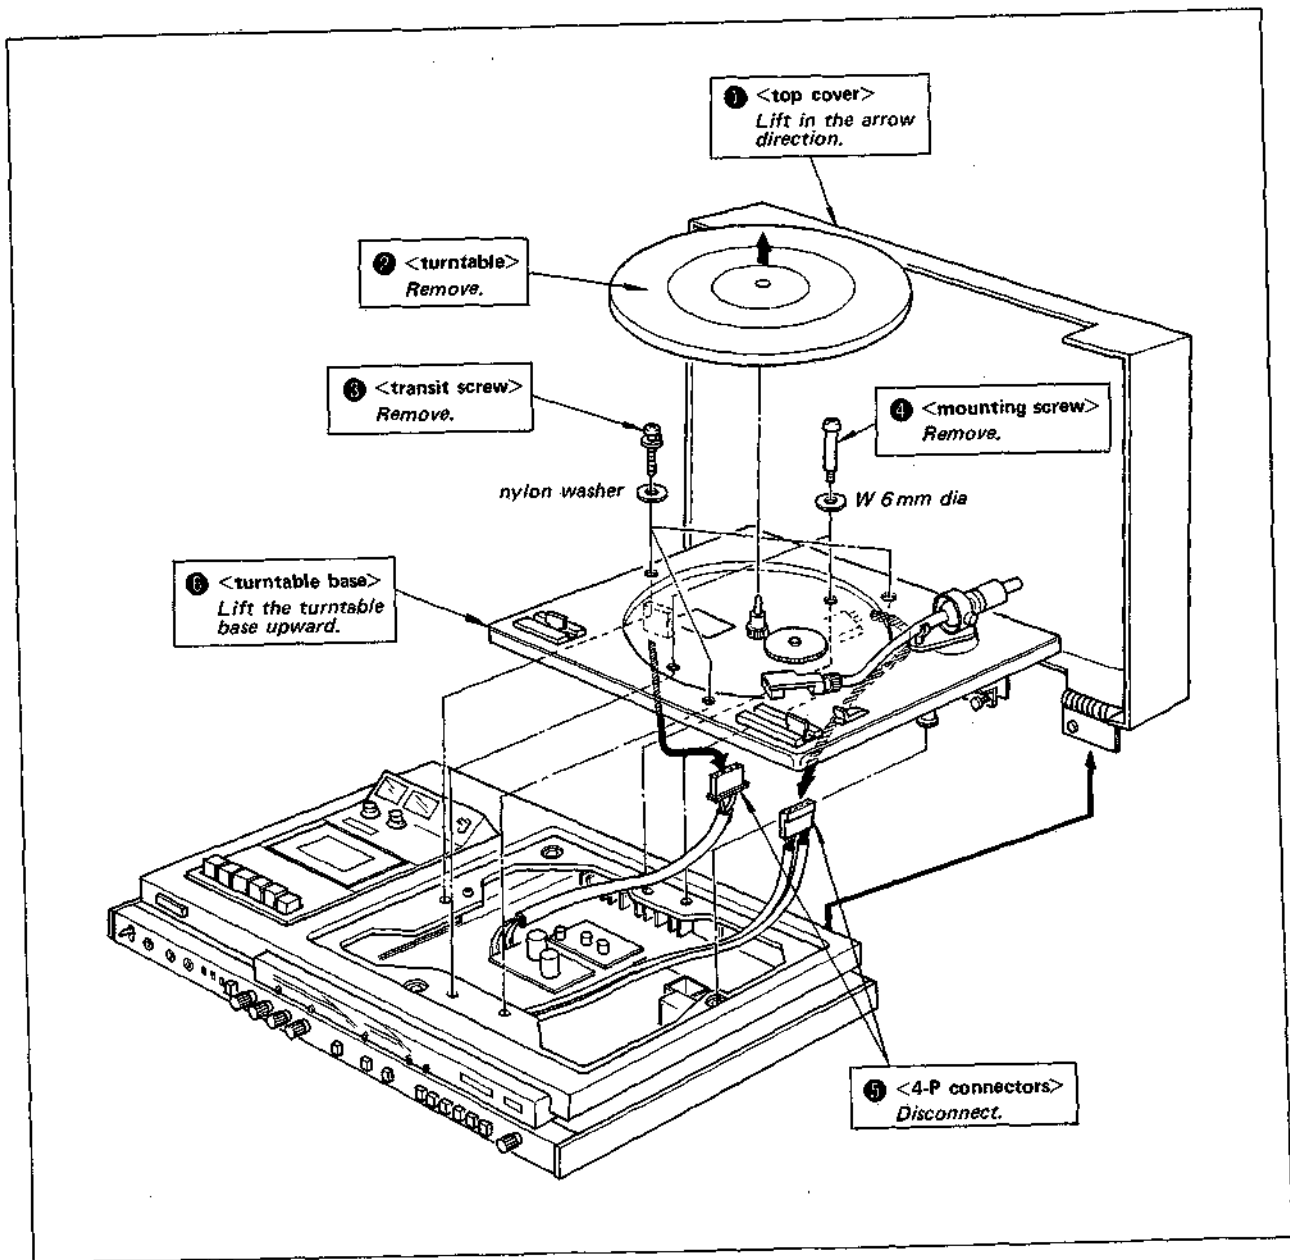

Fig. 2-1. Turntable base removal
Remove ① ~ ⑥ shown in Fig. 2-1. This frees the turntable base.